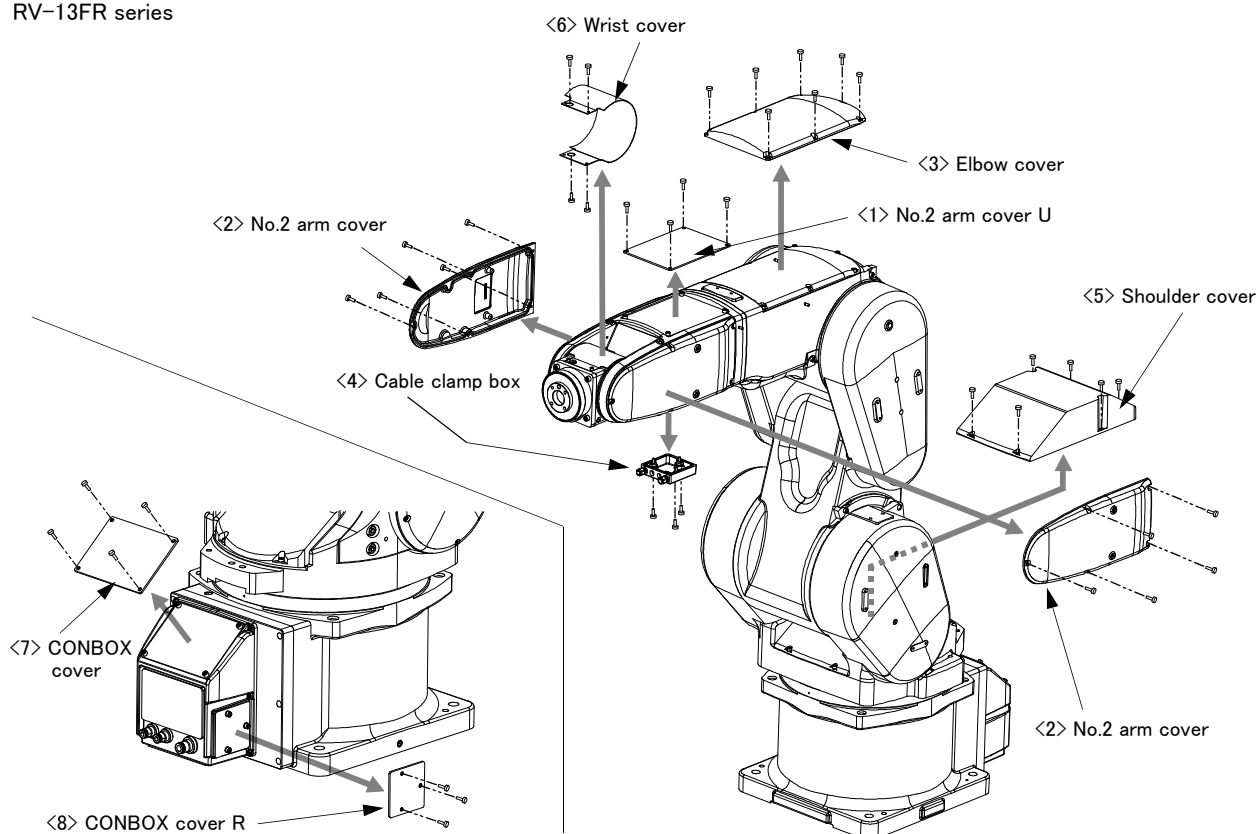

Fig.5-6 : Installing/removing the cover (RV-13FR series)
- (1) Refer to Fig. 5-6, and remove the covers.
- (2) The names of the cover and installation screw are given in Table 5-6. The number in Table 5-6 correspond to Fig. 5-6.
- (3) Depending on the robot's posture, some covers are hard to be removed. In such a case, change the robot's posture by performing jog operation to remove the covers.
- (4) When removing the wrist cover, move the J5 axis to the position of +90 degrees by jog operation.
- (5) When reattaching the covers after a maintenance inspection, proceed in the reverse order of their removal. Tightening the screw with the torque shown in Table 5-6.
- (6) When the cover is removed, the thermal conductive sheet may come off. Reattach the sheet and then attach the cover.